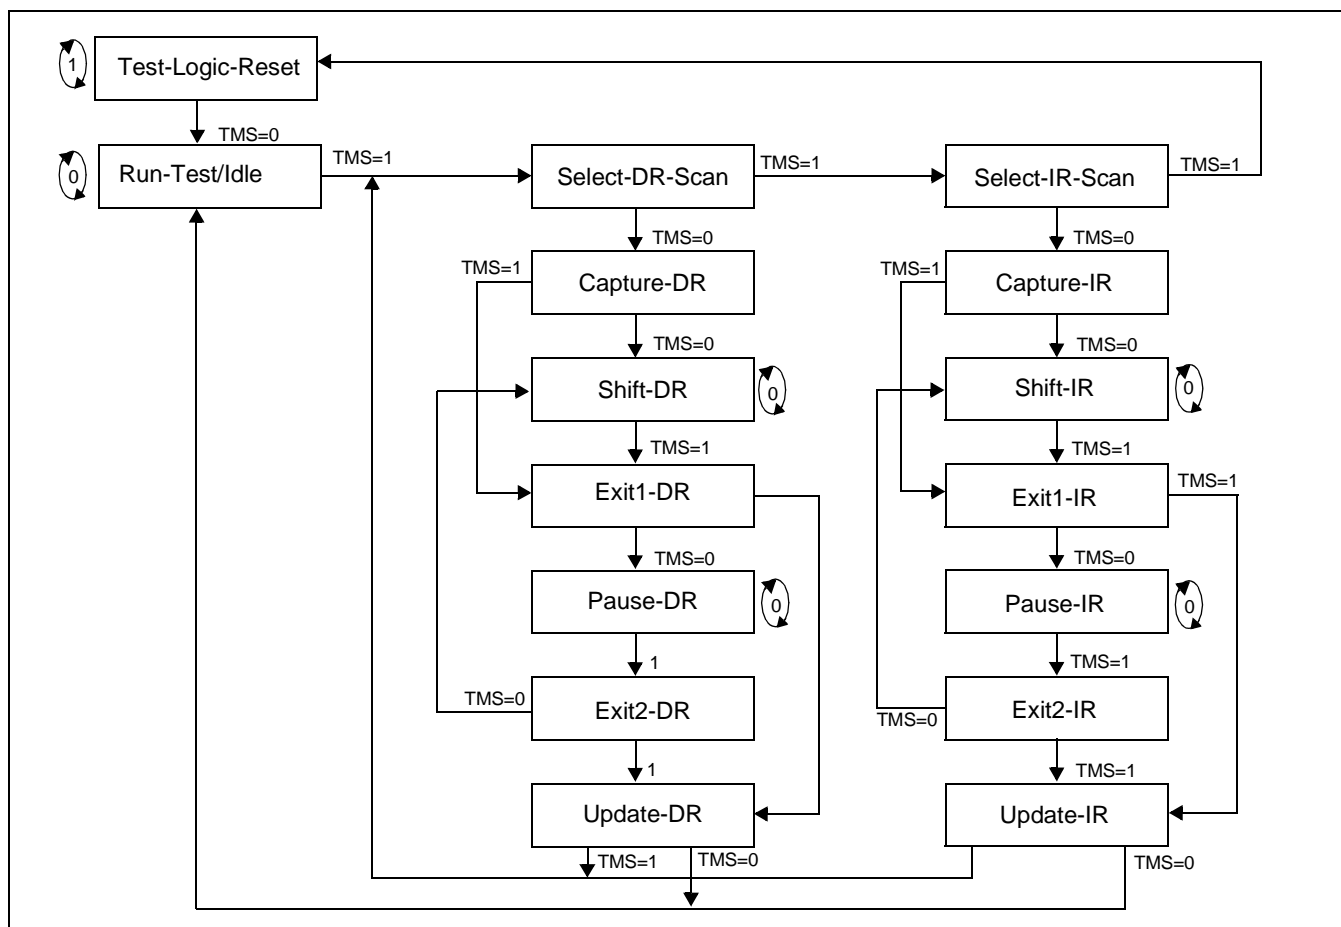

Figure 26-2: TAP Controller State Machine
- TMS is the test mode input and controls the state changes during test operations (see Figure 26-2: “TAP Controller State Machine,” on page 558). TMS is sampled on the rising edge of TCK.
JTAG operation is controlled by a state machine called the TAP controller. Figure 26-2: shows the states of the TAP controller. Transitions between each of the 16 states are controlled by the value of TMS at the rising edge of TCK. The TAP controller has three main states and two possible paths. All other states are temporary states or allow changes in flow.